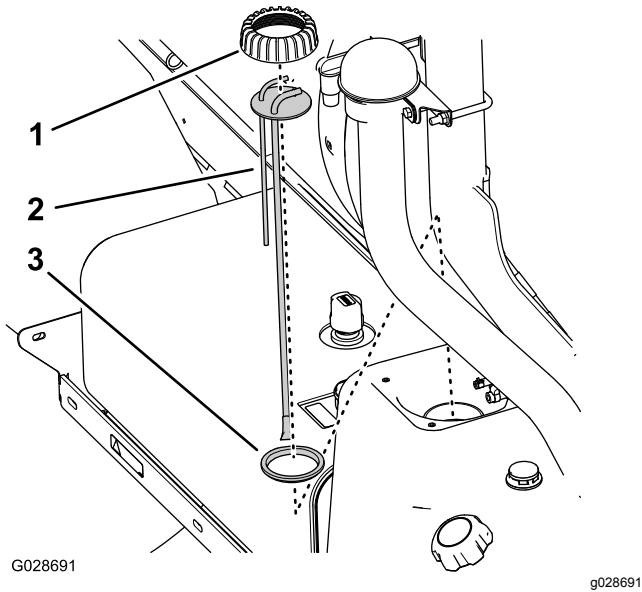

Figure 79
- Rotate the fuel-standpipe/sender cap counterclockwise, then remove the cap (Figure 79).
- Lift the fuel-standpipe/sender assembly from the fuel tank (Figure 79).
- Assemble the standpipe cap over the stand pipe and the standpipe to the seal (Figure 79).
- Align the cap, standpipe, and seal to the tank, and carefully insert the new stand-pipe assembly into the fuel tank (Figure 79).
- Thread the cap onto the neck of the fuel tank and tighten the cap hand tight (Figure 79).